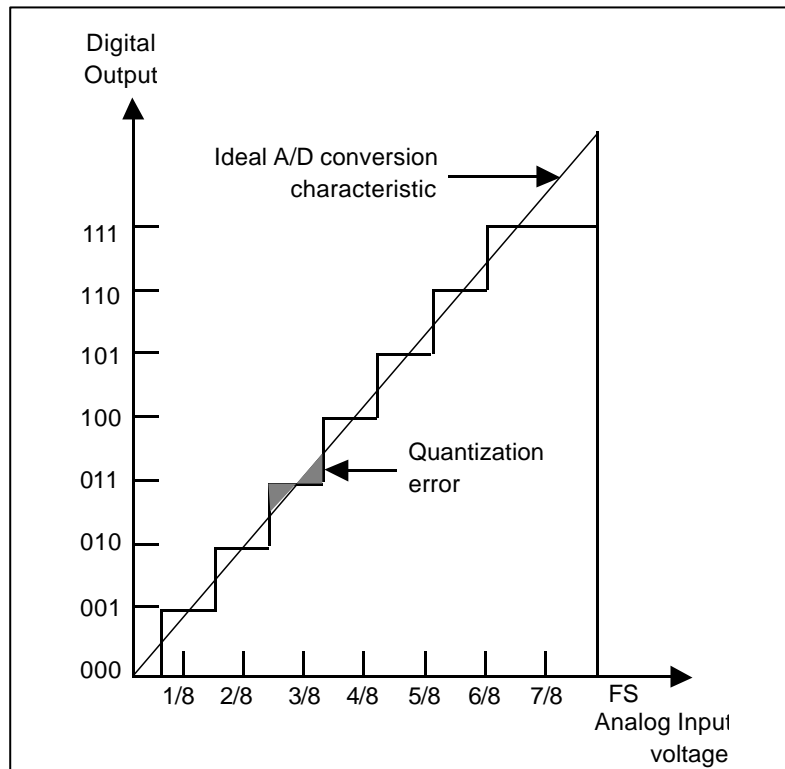

Figure 13.5 A/D Converter Accuracy Definitions (2)
- Quantization error: Intrinsic error of the A/D converter; 1/2 LSB (figure 13.5)